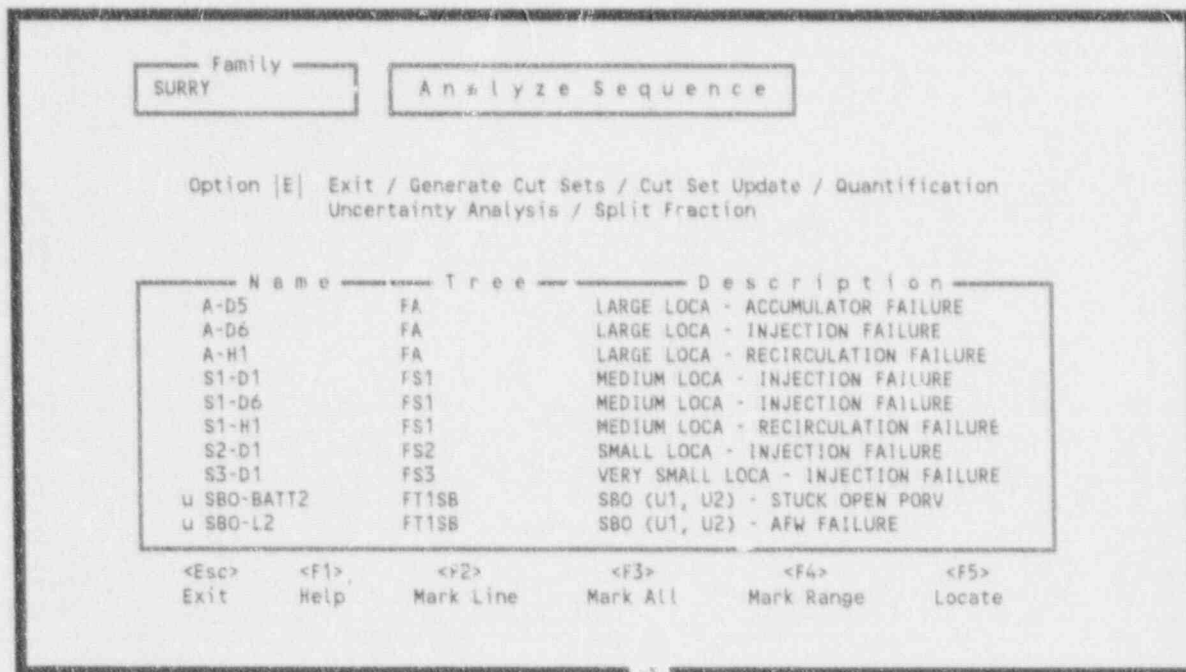

Figure 148. Sequence analysis main menu.
This option provides the means to recalculate sequence values after events and/or cut sets have been modified. To invoke the option, highlight Analyze Sequences or type <A> in the option field, and press <Enter>. Figure 148 shows the main screen for sequence analysis that lists the sequences defined for the current family. The letters c, q, and u (in any combination) may precede a sequence name and are defined as follows:
8.2.5.1 Exit. This option terminates the uncertainty analysis process and returns you to Figure 148. To invoke this option enter an <E> in the option field and press <Enter>, or press the <Esc> key.